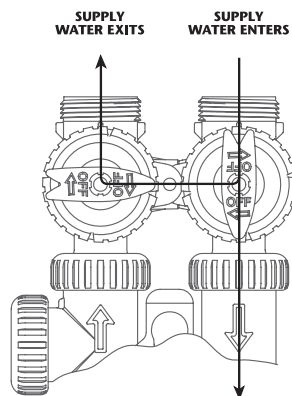

Figure 3
3. **Diagnostic Position:** The inlet handle points toward the control valve and the outlet handle points to the center of bypass valve. Untreated supply water is allowed to flow to the system and to the building, while not allowing water to exit from the system to the building (Fig. 3). This allows the service technician to draw brine and perform other tests without the test water going to the building.
- 2b. Unplug the transformer so that the valve will not cycle to the next position. Open the inlet handle of the bypass valve **very slightly** allowing water to fill the tank **slowly** in order to expel air. Once air is expelled and water is running at drain, open inlet to control and place into the diagnostic mode (**Fig. 3 on page 2**).